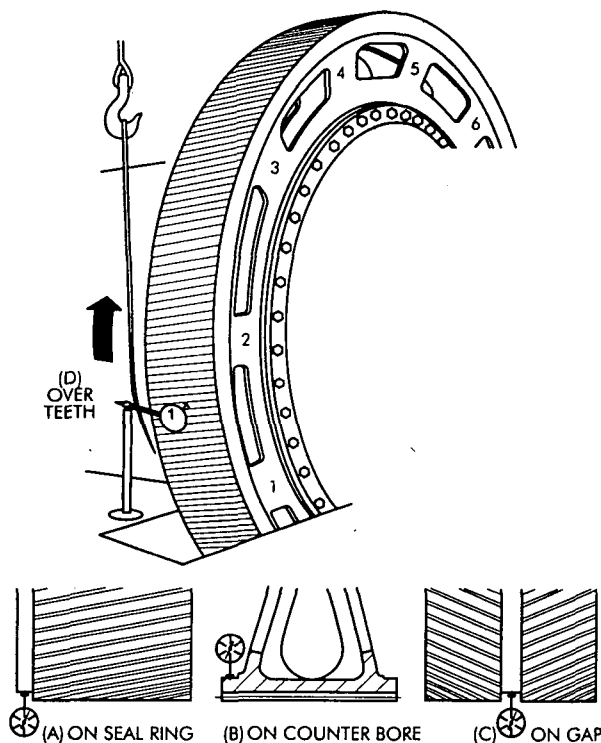

Figure 16 — PLACEMENT OF INDICATORS
Mount a dial indicator so that it can be set against one of the four machined surfaces shown in Figure 16. Place the indicator squarely to the machined surfaces at one of the stations stamped on the gear face. When utilizing the indicator positions shown on sketches A or B, be sure to use the side of the gear that has been stamped (000). Rotate the gear slowly and record the indicator reading for each station at the corresponding station number in Column 1 of Worksheet 3: Radial Runout. After one complete revolution, the indicator must read within +.002 in. (+0.050 mm) of the initial reading at the starting station. If not, repeat this step.